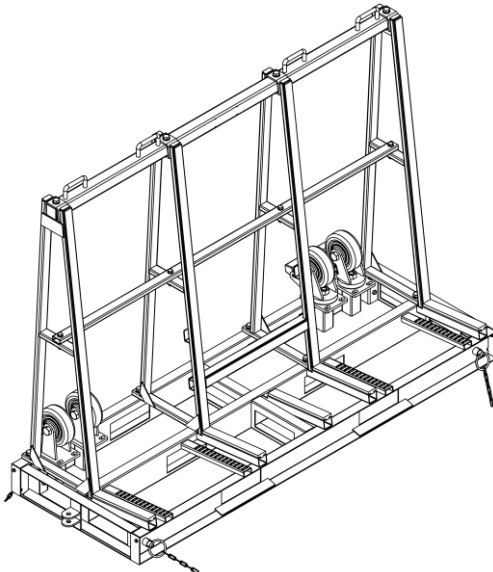

Figure 2.1
Step 1: Remove four casters (Figure 2.1).